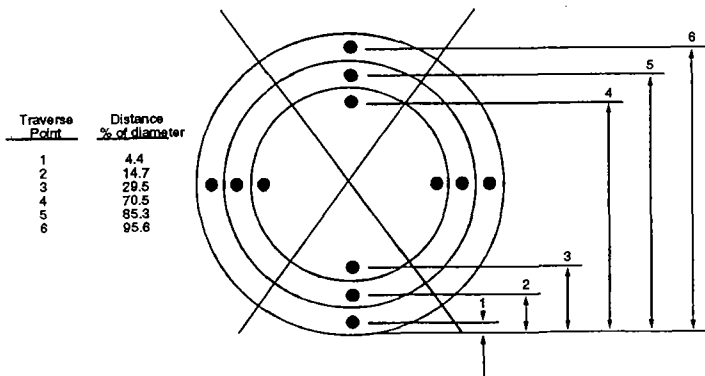

Figure F1-2. Circular stack cross-section layout.
1. Locate the traverse points on two perpendicular diameters according to Table F1-2 and Figure F1-2.